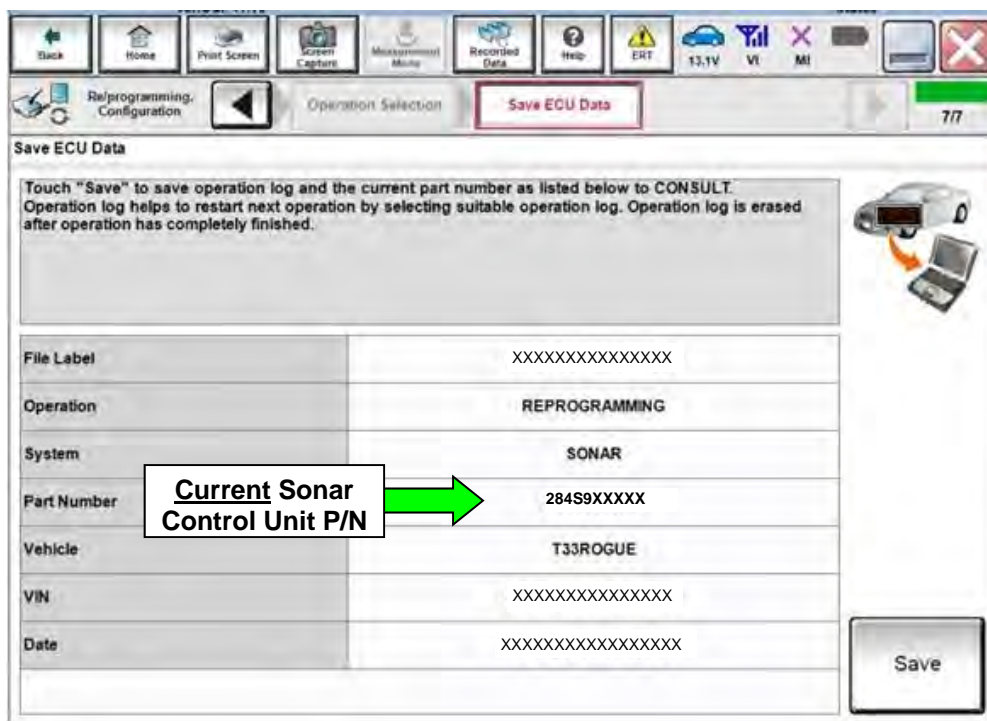

Figure 14
26. When you get to the screen shown in Figure 14, confirm that a reprogram is available as follows: